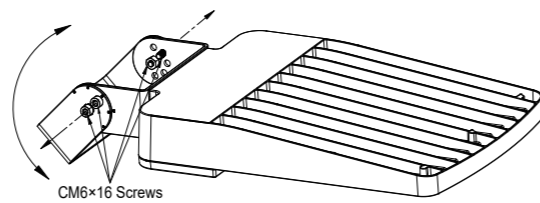

Figure 8
3. Loosen the CM6x16 screws, rotate the luminaire to the desired tilt, and then tighten the screws, Figure 8.